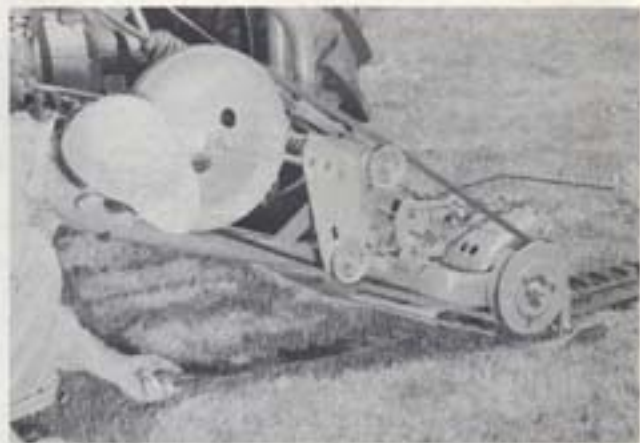

Fig. 63 Inserting Knife
21. Slide the knife into the cutter bar (Fig. 63)